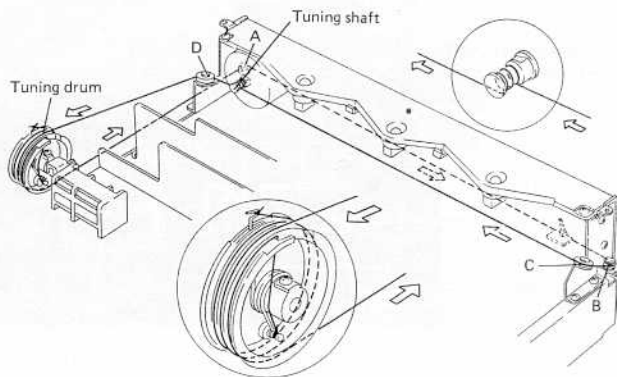

Fig. 7 Dial cord stringing
5. Pass the dial cord around pulleys A, B and C in that order (see Fig. 7).